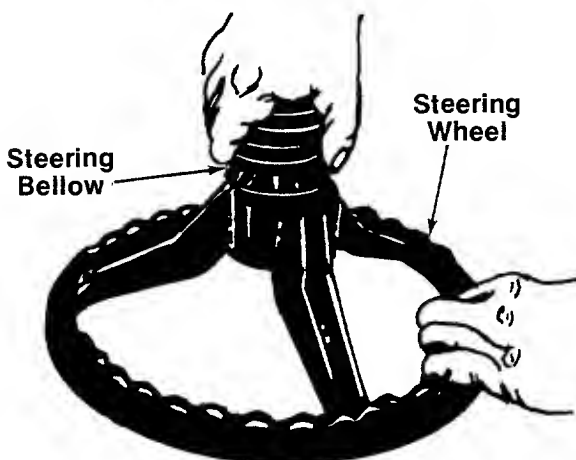

FIGURE 5.—Models 811, 823, 825, 833 and 835
2. **Models 811, 823, 825, 833 and 835 only:** Attach the plastic steering bellow to the steering wheel as shown in figure 5.